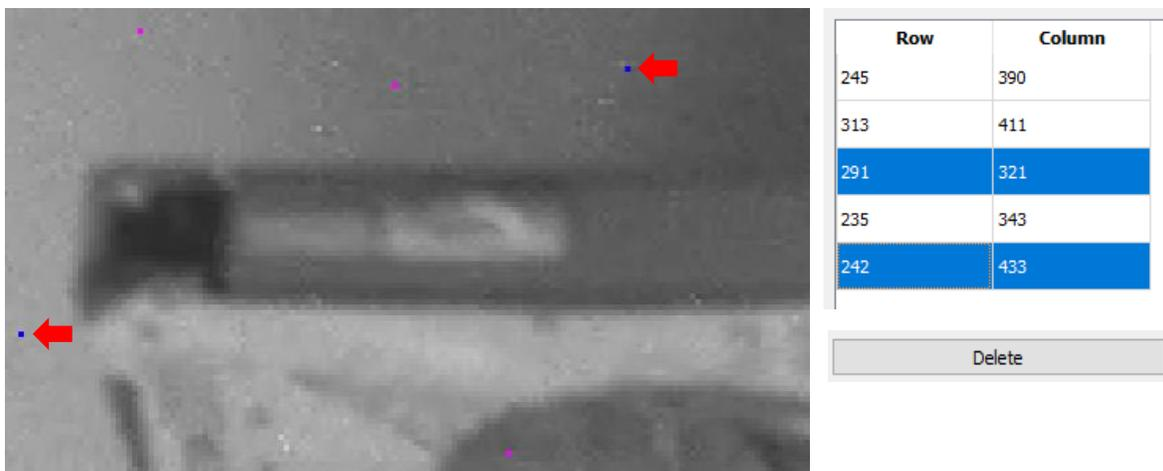

Figure 13: Example - Removing Dead Pixels from Current List
- To delete or remove any of the selected pixels (magenta pixels) from the current list click on them again, they will turn blue in color (Figure 13).